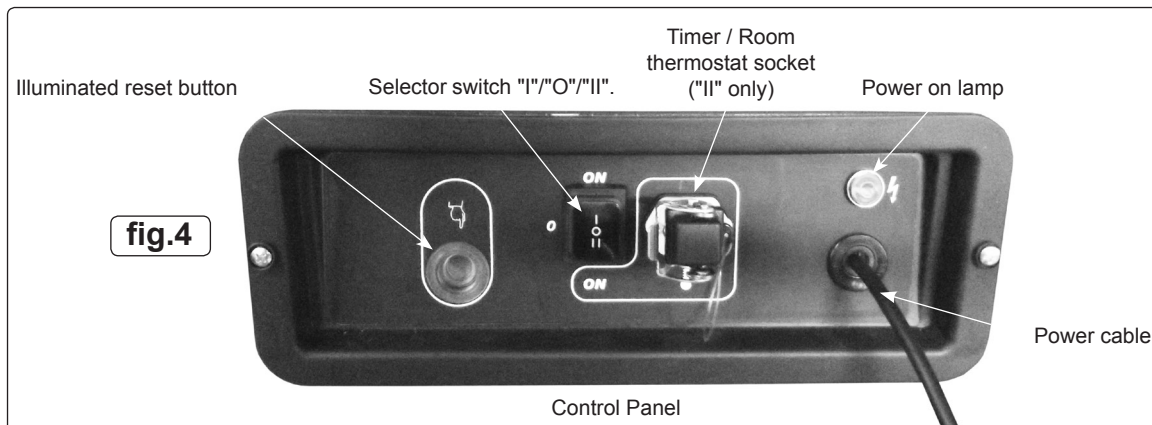

fig.4
**NOTE:** Always place on a flat, stable and level surface and check the electrical supply conforms to the data on the model plate. It is preferable to start the heater outdoors for the first time to allow any oils left over from the manufacturing process to be burnt off safely; run it for 10 minutes on this first burn. On first starting or if the heater is started after the oil tank has been emptied; the flow of oil to the burner may be impaired by air in the circuit. In this case the automatic digital control system will cut out ("safety lockout system") the heater and it might be necessary to renew the starting procedure by depressing the reset button on the control panel (fig.4). This button will illuminate; wait two minutes before resetting. Repeat if necessary.
6.1.3. Plug the power cord into a suitable power socket, indication of power will be shown by the power light illuminating in fig.4. If using an extension lead see Section 1.1.11.
Electrical hardware and wiring loom (see also fig.4)